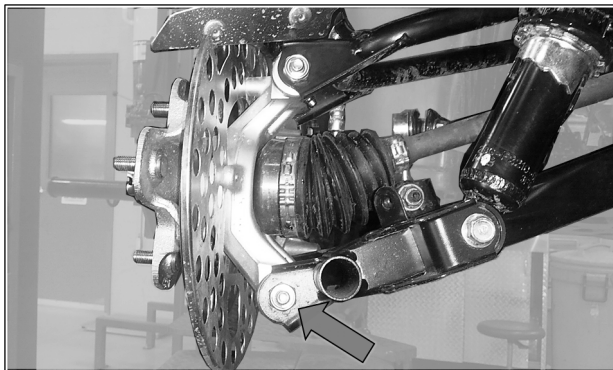

Fig. 6
5. Remove bolt that links lower suspension arm to wheel knuckle. See Fig. 6